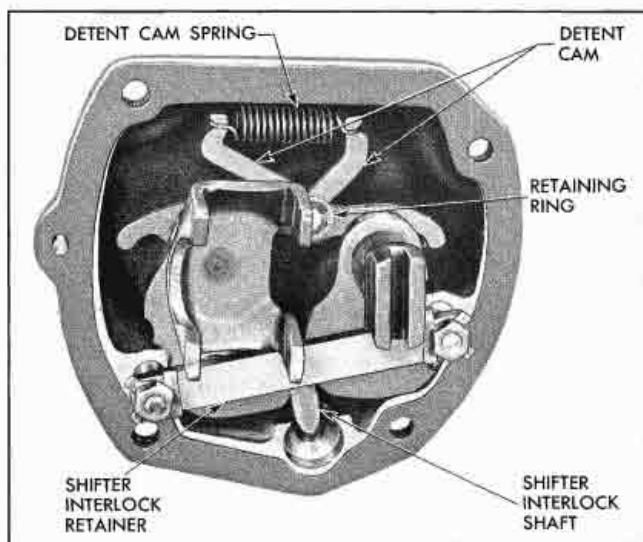

Fig. 7-30 Transmission Side Cover—Inner View
1. Remove nuts and locks from shifter interlock retainer and remove retainer (Fig. 7-30).
2. Remove detent cam spring to release detent cam (Fig. 7-30).
4. Remove retaining ring and remove detent cam (Fig. 7-30).